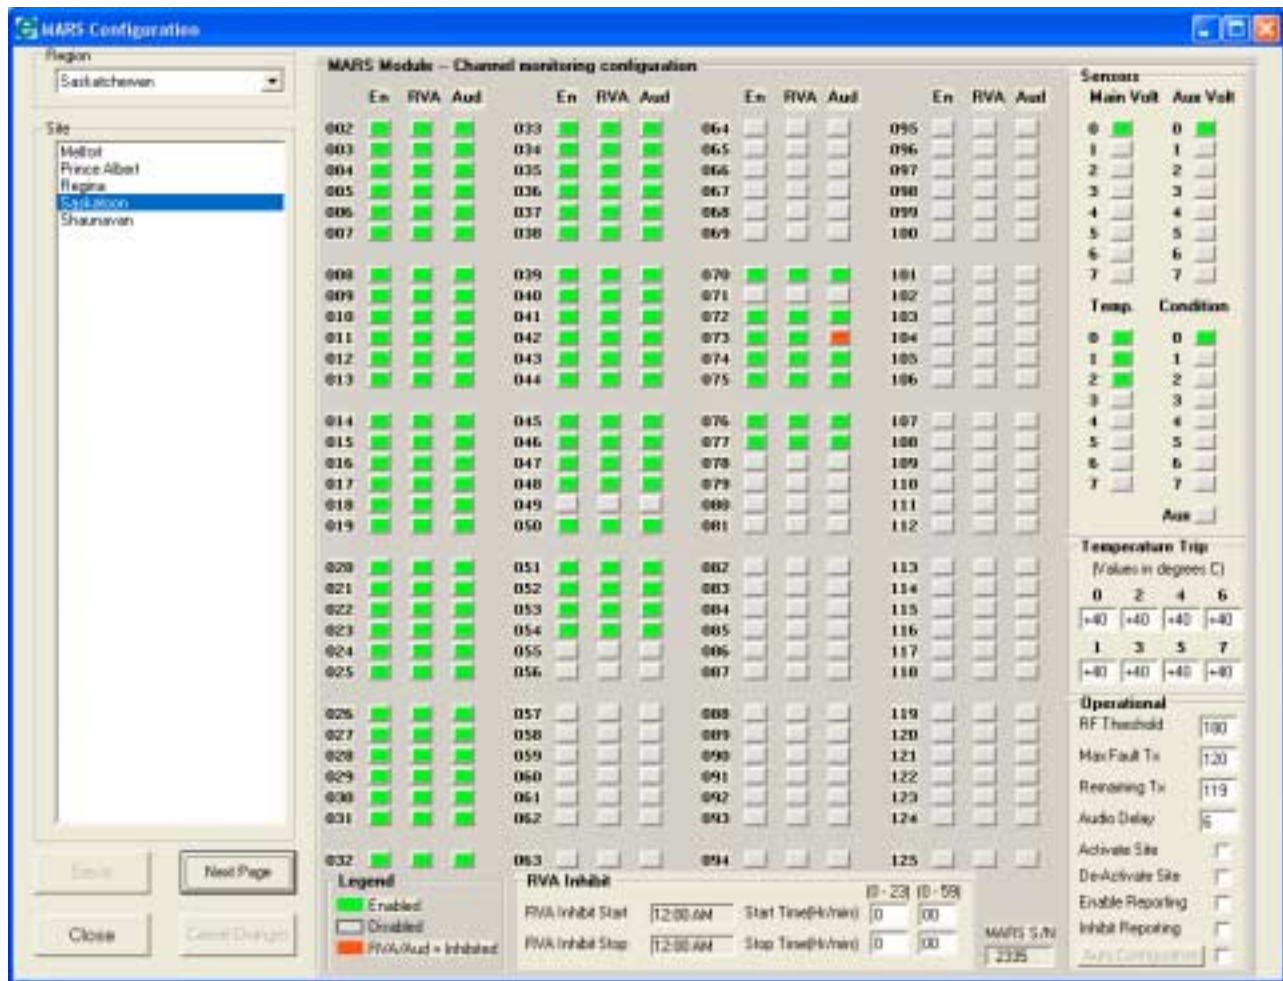

Figure 15: MARS Configuration, Channel and Sensor configuration
3. Select **Next Page**. The next page of the “Mars Configuration” will appear (See **Figure 15**, below).